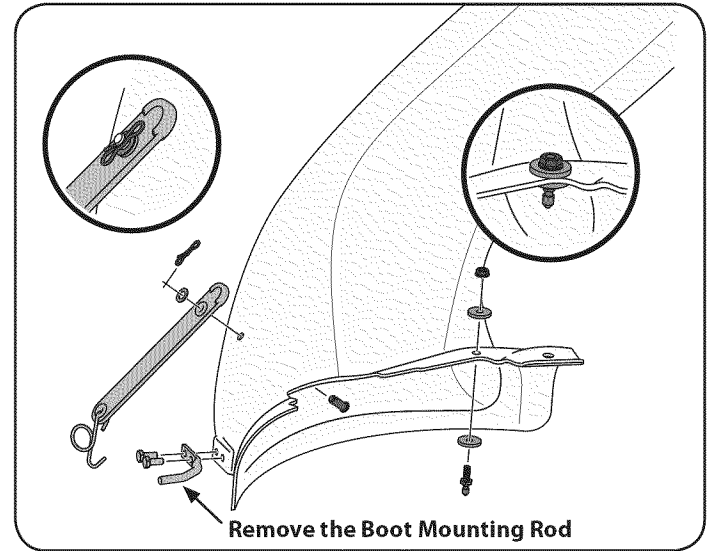

Figure 18
1. Install the rubber chute strap, from hardware pack 689-00313, onto the chute elbow using the clevis pin (711-05063), washer (736-0204) and Bow-tie cotter pin (714-04040) from hardware pack 689-00313. See Figure 18. Secure the end of the strap utilizing the hole furthest from the end, insert the torsion spring hook (732-04510A) into the other end.
Note: On decks with front deck wheels, the boot mount rod must be removed in order to install this discharge chute elbow onto the tractor. See Figure 18.